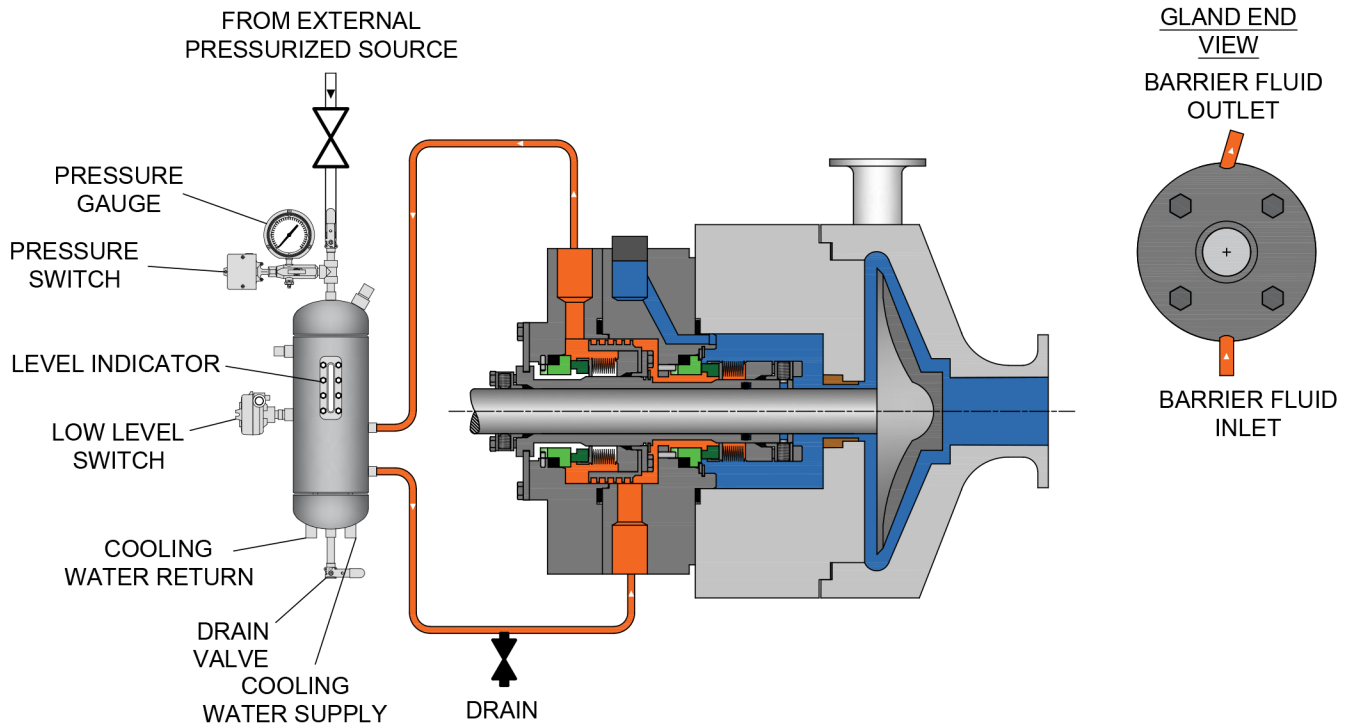

Figure 2: Pressurized external reservoir providing barrier fluid to inner and outer seals.
11. For Plan 53A configurations (Figure 2), connect plant or bottled nitrogen to the reservoir VENT connection.